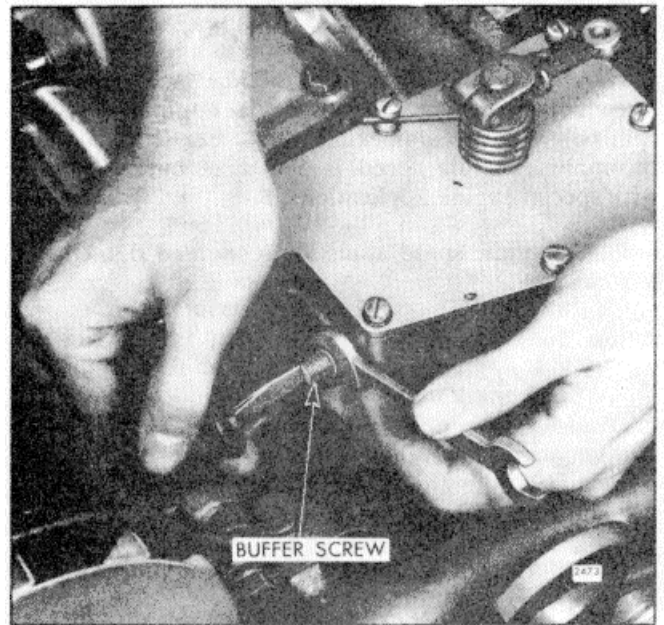

Fig. 6. - Adjusting Buffer Screw
1. With the engine running at normal operating temperatures, turn the buffer screw IN so that it contacts the differential lever as lightly as possible and still eliminates engine roll (Fig. 6).